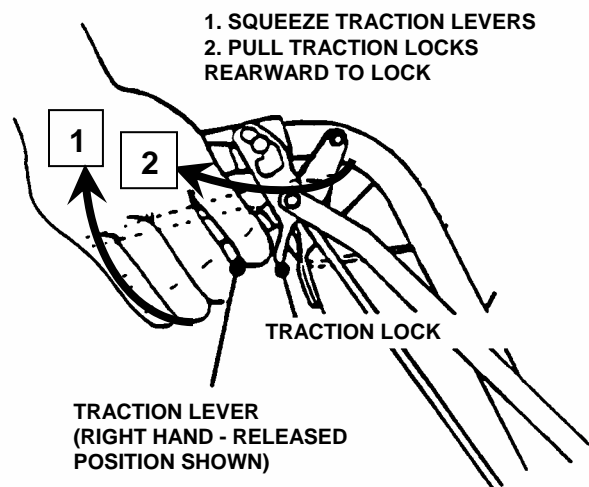

FIGURE 3.8
3. Move Transmission Shift Lever to **REVERSE (R)** position.
7. To **STOP** forward or reverse motion, firmly squeeze both Traction Levers towards the handle and hold. Using your index fingers, pull right and left Traction Locks back until both Traction Levers lock in Traction Locked position. See Figure 3.8.